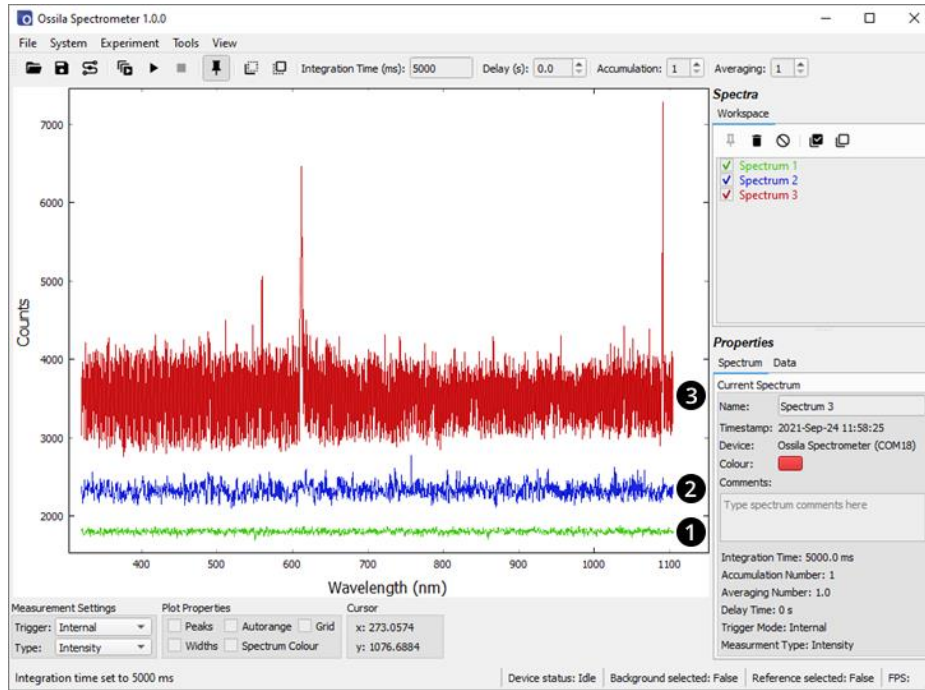

Figure 12.1. Uncorrected dark spectra for integration times of (1) 50  $\mu$ s, (2) 500 ms and (3) 5 s.
A significant source of noise from a CCD is thermal noise. It is random in nature and increases with both integration time and temperature. **Figure 12.1** shows dark spectra taken with 3 different integration times: 50  $\mu$ s (1), 500 ms (2) and 5 s (3). For low and moderate integration times (<1s), thermal noise is dominant. Thermal noise is not affected by subtracting a background spectrum (due to its randomness) but can be reduced by averaging consecutive spectra.